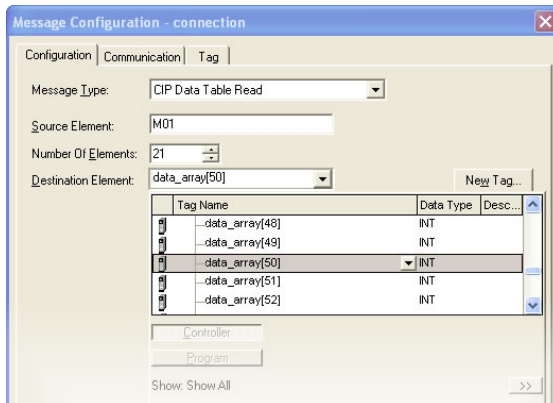

Figure 101: Selecting the Destination Element
- iv) For the Destination Element, either directly type in "data_array[50]", or select element #50 in the data_array tag via the drop-down box (refer to Figure 101). The destination could be any offset in the data_array tag, as long as the offset plus the Number Of Elements (21) does not exceed the tag's defined size (73).